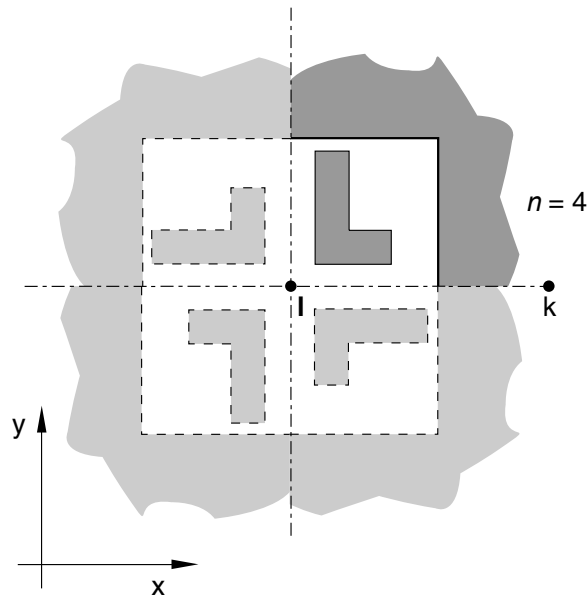

Figure 3.86–1 *CYCLIC, TYPE=POINT option.
Set TYPE=POINT to create a two-dimensional cavity by cyclic repetition of the cavity surface defined in the model by rotation about a point, l . See Figure 3.86–1. The cavity surface defined in the model must be bounded by the line lk and a line passing through l at an angle, measured counterclockwise when looking into the plane of the model, of $360^\circ/\text{NC}$ to lk .
Set TYPE=AXIS to create a three-dimensional cavity by cyclic repetition of the cavity surface defined in the model by rotation about an axis, lm . See Figure 3.86–2. The cavity surface defined in the model must be bounded by the plane lmk and a plane passing through line lm at an angle, measured clockwise when looking from l to m , of $360^\circ/\text{NC}$ to lmk . Line lk must be normal to line lm .
1. x -coordinate of rotation point l (see Figure 3.86–1).
1. x -coordinate of point l on rotation axis (see Figure 3.86–2).